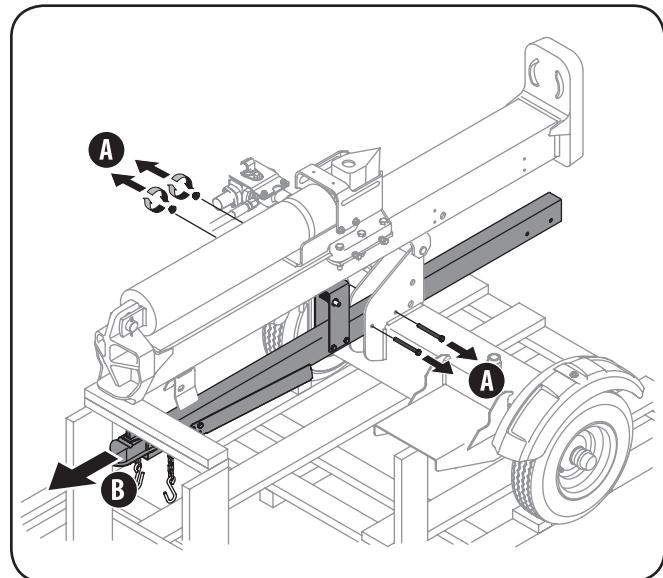
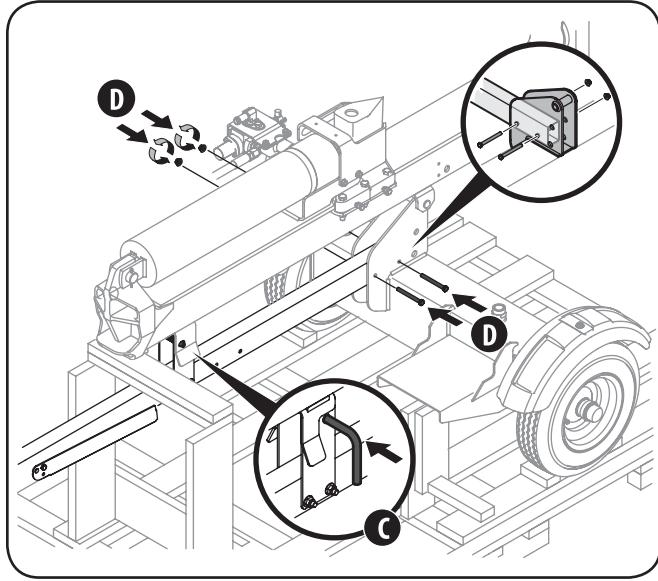

Figure 4-2
Figure 4-3
For shipping purposes, the tongue tube is secured to the log splitter frame near its center. To reposition it, refer to Figure 4-2 and Figure 4-3 and proceed as follows:
- Pull the beam lock outward, line it up with the hole in the beam bracket and release the beam lock. See Figure 4-3.
- Fasten the tongue tube to the frame by reinstalling the two hex screws removed in Step 1 and tightly securing with the two flange lock nuts. See Figure 4-3.